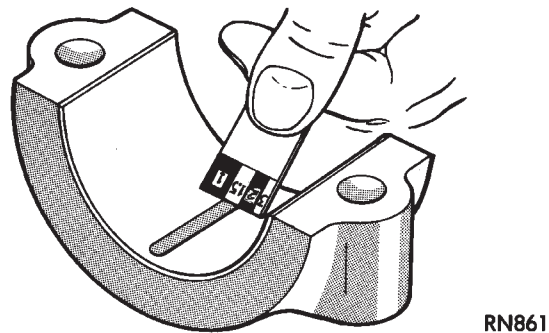

Fig. 3 Clearance Measurement
- (2) Remove the bearing cap and compare the width of the flattened Plastigage with the scale provided on the package (Fig. 3). Plastigage generally comes in 2 scales (one scale is in inches and the other is a metric scale). Locate the band closest to the same width. This band shows the amount of clearance. Differences in readings between the ends indicate the amount of taper present. Record all readings taken (refer to Engine Specifications).
(4) Remove the bearing cap and compare the width of the flattened Plastigage with the scale provided on the package (Fig. 3). Plastigage generally comes in 2 scales (one scale is in inches and the other is a metric scale). Locate the band closest to the same width. This band shows the amount of clearance. Differences in readings between the ends indicate the amount of taper present. Record all readings taken (refer to Engine Specifications).
(5) Plastigage is available in a variety of clearance ranges. The 0.025-0.076 mm (0.001-0.003 inch) range is usually the most appropriate for checking engine bearing clearances.